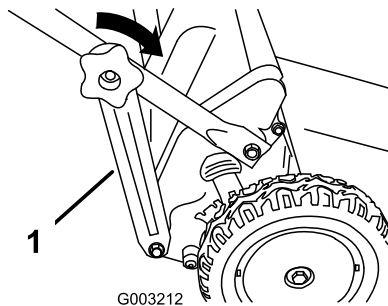

Figure 7
5. Attach the handle brackets (Figure 7) to the lower handle sides.